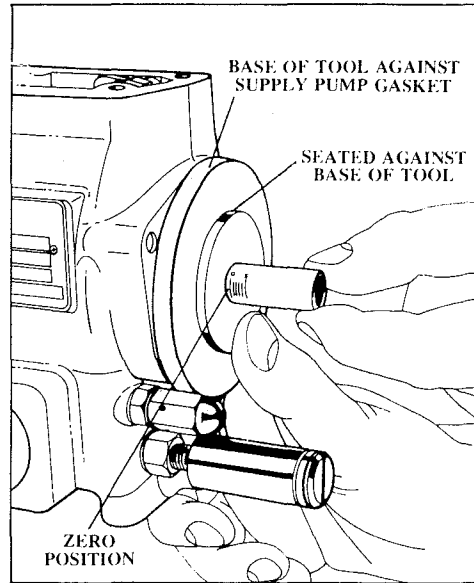

FIGURE 2-207
- (12) Make certain that the base of tool is resting firmly against the governor housing gasket and that the outer spring gauge portion is firmly seated against the base of tool. (Apply pressure with thumb). Refer to figure 2-207.
- (13) Establish zero position on inner spring gauge portion of tool as indicated in figure 2-207 above.
- (14) Refer to the appropriate calibration data manual sections for the required spring gap or precompression.
- (15) With pressure still applied to outer spring gauge portion of tool, gently push inner spring gauge in until it rests **lightly** against inner spring seat.